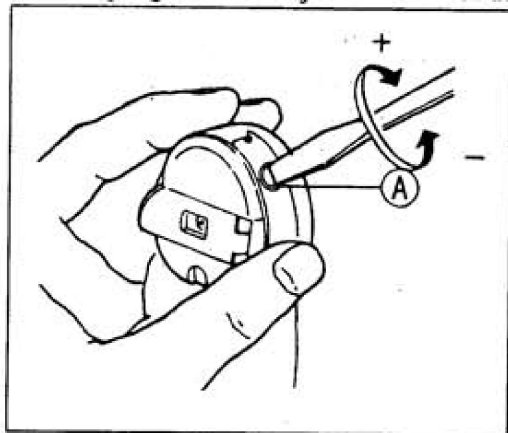

Fig. 11
13. ADJUST THREAD TENSION (Fig.11,12)